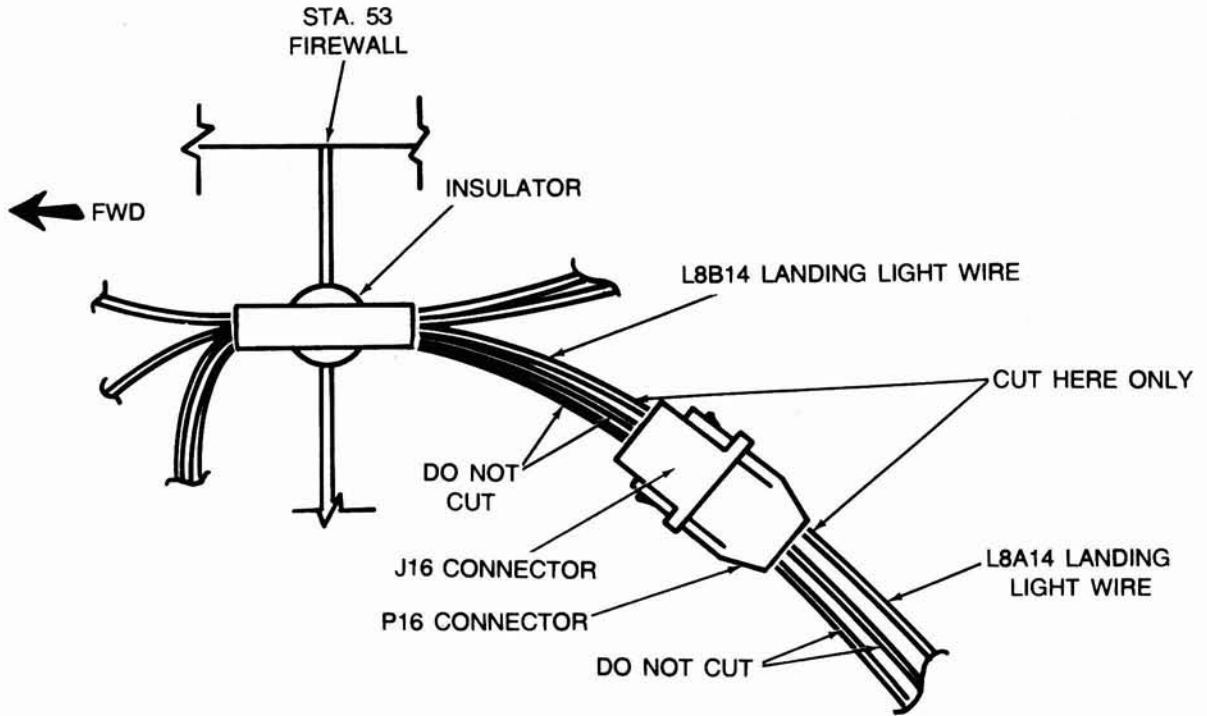

Figure 1.
3. Locate the J16 and P16 connectors just aft of the firewall wiring insulator at the upper center of the firewall as shown in Figure 1.